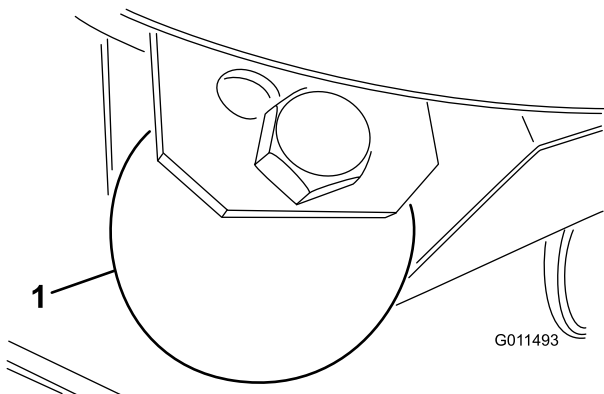

Figure 25
1. Remove the bolt and nut securing the gage wheel to the cutting unit brackets (Figure 25).